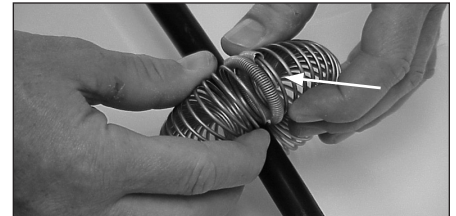

FIGURE 6: Work both ends of the Corona Ring through the Inner Spring.
6. Work both ends of the Corona Ring through the Inner Spring completely (**Figure 6**). Ensure at least a 1-inch protrusion of the Corona Ring through the Inner Spring.